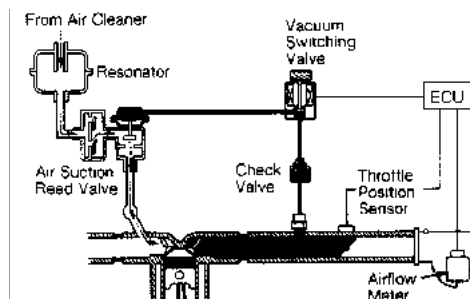

Fig. 26: Air Suction System (Typical)
The AS system uses exhaust gas pulses to draw air into the exhaust manifold or catalytic converter to reduce hydrocarbons (HC) and carbon monoxide (CO) emissions. The AS system works by drawing air through the air filter and reed valve into the exhaust manifold or catalytic converter. See Fig. 26. Based on coolant temperature, engine RPM, throttle valve position, and vehicle speed sensor inputs, fresh air flow into the exhaust manifold can be turned on or off by the ECU through Air Suction Valve (ASV) and Vacuum Switching Valve (VSV).